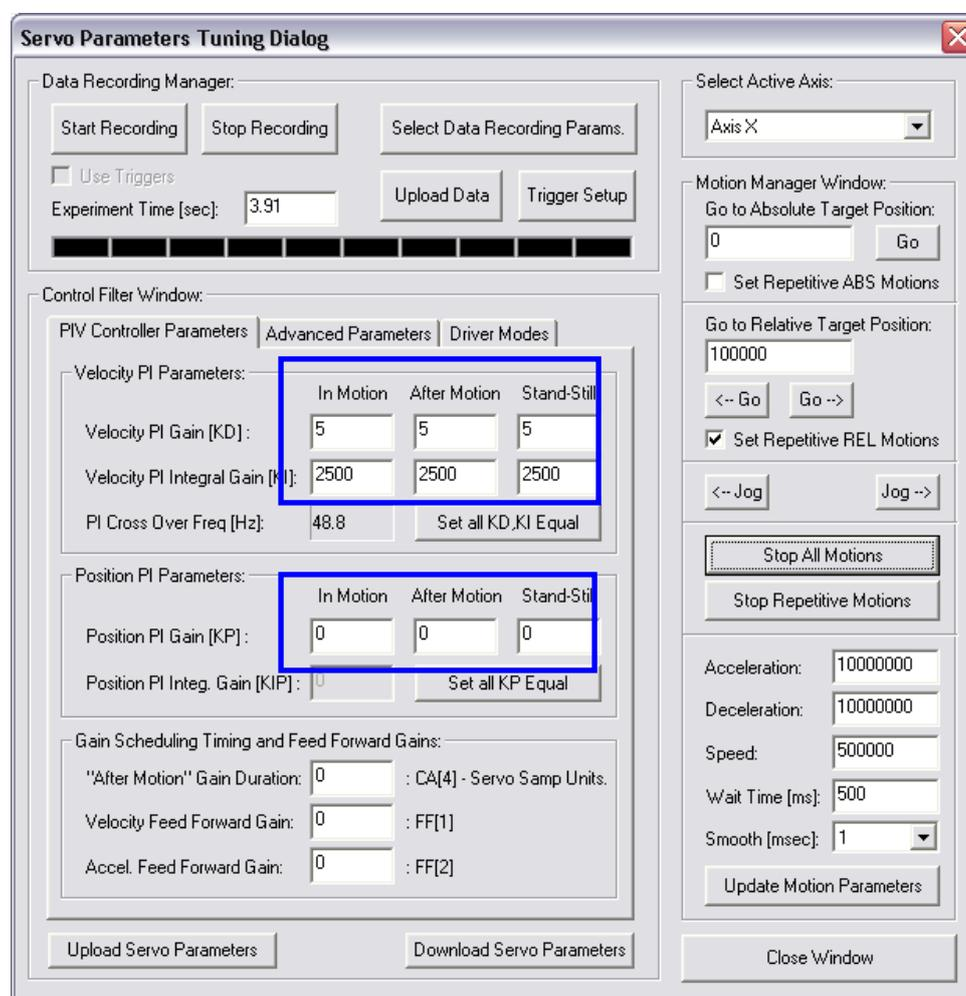

Figure 8: Setting the “PIV Controller Parameters”
2. Press ALT+P (or on the “Tools” menu, click “Servo Parameters Tuning Utility”), see Figure 8.